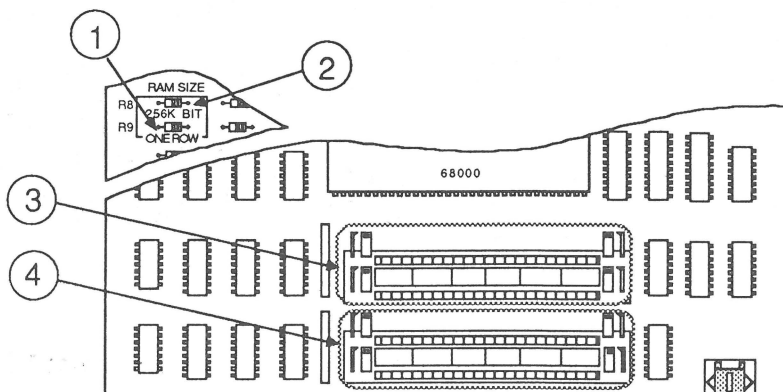

FIGURE 12
Note: For installation purposes, the SIMMs are labeled Bank A (Figure 12, #3) and Bank B (Figure 12, #4). Each bank or row is composed of two slots, and both slots must have a SIMM installed.
- If you have more than one bank of SIMMs installed, the ONE ROW, R9 (Figure 12, #1) resistor should be cut out using insulated wire cutters.
- If you have 256K SIMMs in both group A (Figure 12, #3) and group B (Figure 12, #4), the resistor marked 256K BIT, R8 (Figure 12, #2) must be installed.